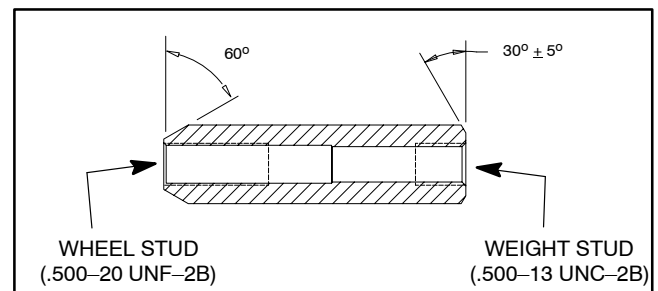

Figure 3
- Install four (4) lug nuts onto drive studs.
- If studs were removed from wheel weight adapters, thread studs fully into the correct end of the adapter (Fig. 3).
- Install two (2) lug nuts and two (2) wheel weight adapters with studs onto drive studs.
- Secure wheel weight to wheel with two (2) thrust washers and lock nuts.